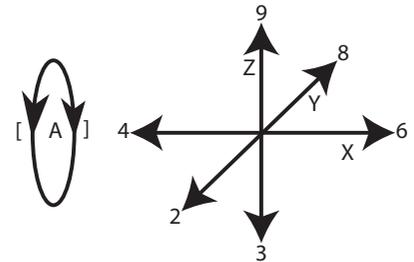

Fig 10: Keys for jogging.
If we talk about “running” a program, maybe “jogging” makes sense as a slower movement. Jogging refers to moving the Controlled Point (CP) a little at a time, under keyboard control. Mach3 uses the numeric and symbol keys to move the X, Y, Z and A axes, as shown in fig 10, but it also incorporates some jogging controls on screen which are not replicated in the keyboard. Jogging is a frequently used facility, but the jogging screen is hidden, and you may want to write a sticky note and paste it to your monitor to tell you that: